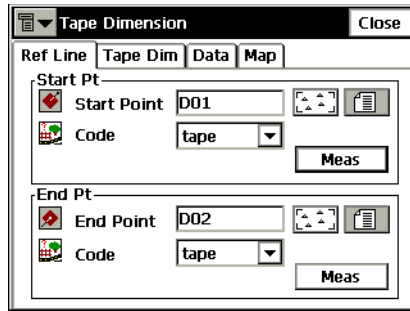

Figure 6-19. Tape Dimension – Ref Line Tab
2. In the *Ref Line* tab, enter the information about the two points comprising the reference line: the names and codes. If the reference line points are to be observed, tap the **Meas** button in the corresponding fields (Figure 6-19 on page 6-18).